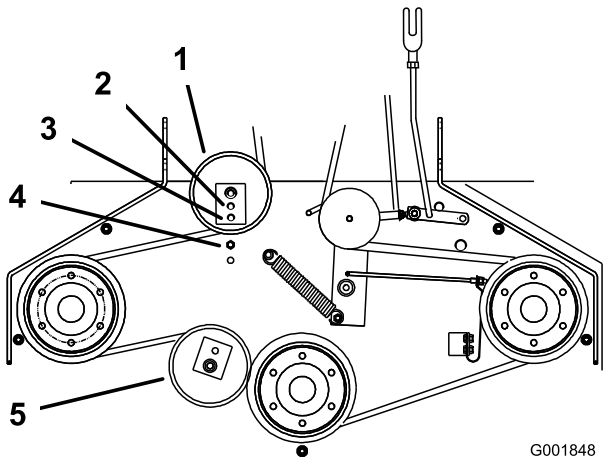

Figure 44
- If there is no adjustment left in the turnbuckle and the belt is still loose, position the rear idler pulley in the middle or front hole (Figure 44). Use the hole that will give the correct adjustment.
- When the idler pulley is moved the belt guide must be moved. Move the belt guide to the front position (Figure 44).